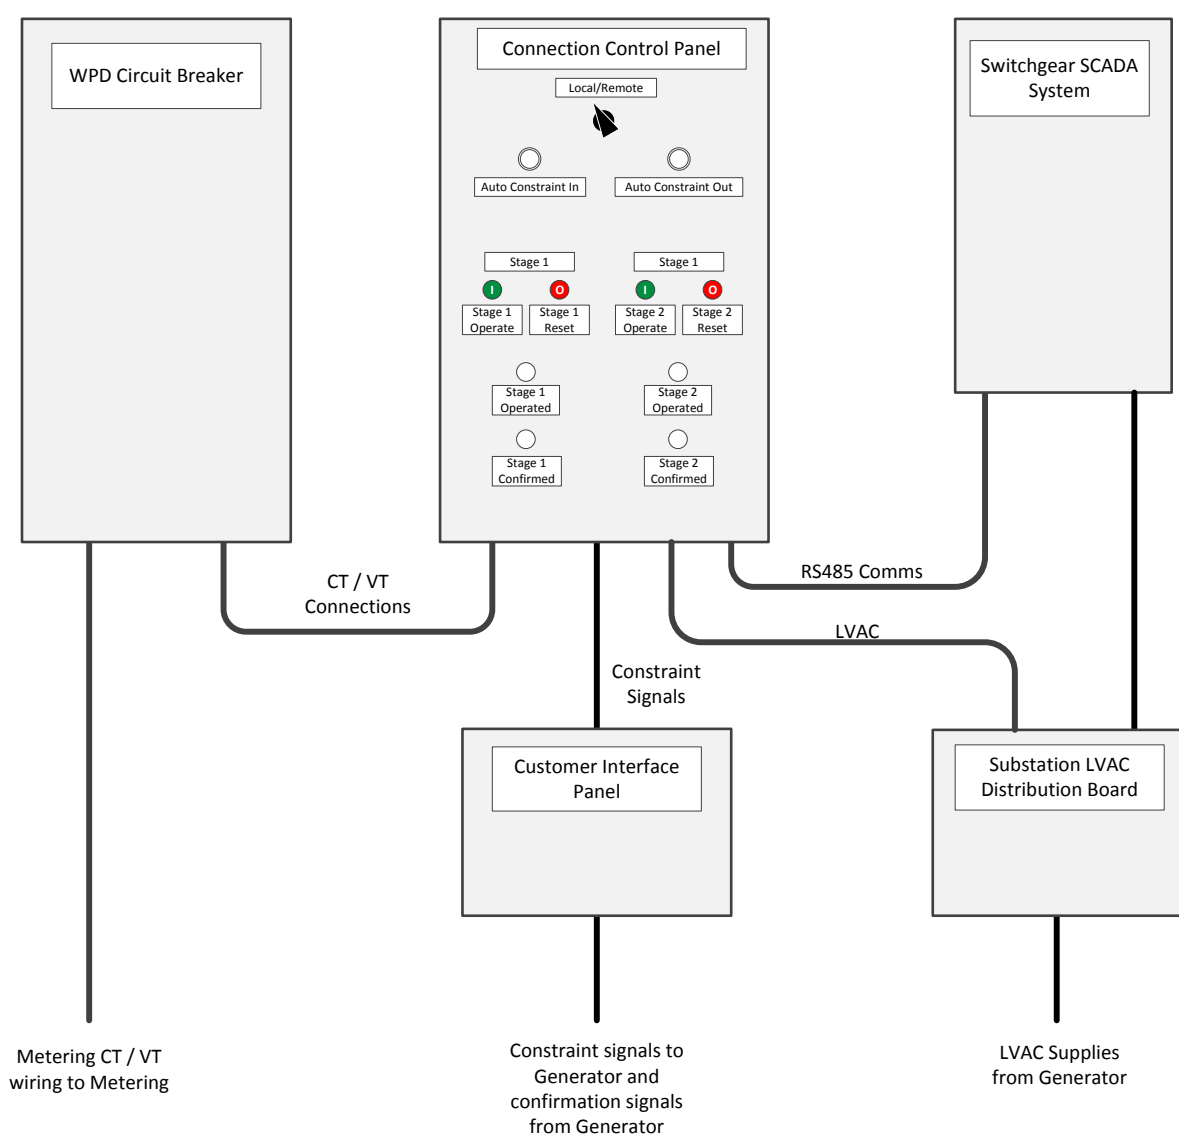

Figure 1 Typical 33kV Connection Arrangement
3.1.4 Figures 1 and 2 show how a typical CCP is connected at 33kV and 11kV respectively. Photographs of a CCP are provided in Figures 3 and 4.